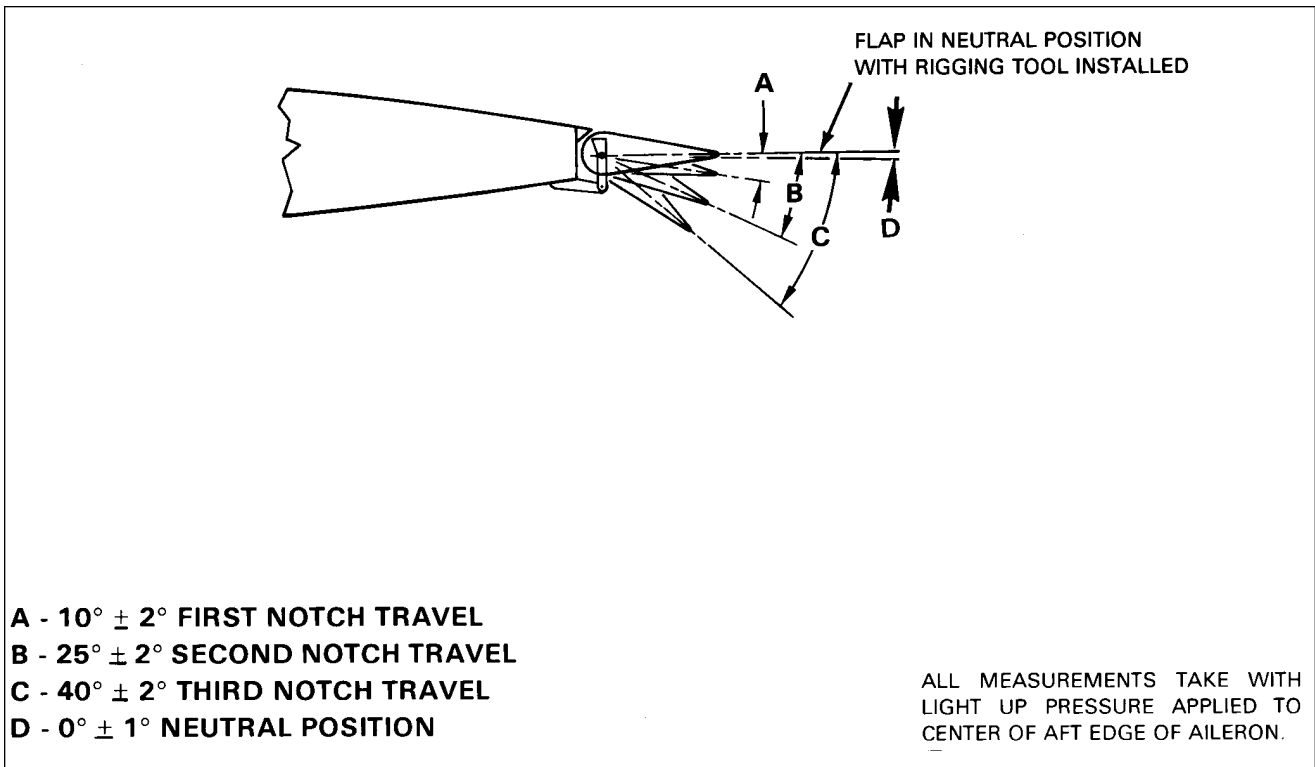

Figure 27-19. Flap Rigging
6. Set the flap control cable tension (handle next to floor, 0 degrees) as given in Figure 27-19 at the turnbuckle that is attached to the lower end of the flap handle in the floor tunnel. To do this and if not previously removed, remove the flap handle cover and enough tunnel carpet to remove the tunnel cover just aft of the handle. Adjust and resafety the turnbuckle.
11. Check the flap for full down travel to the degrees required in Figure 27-19. Should the travel not be as that required, readjust the torque tube screw in or out as required. After readjusting the screw, it will be necessary to review Steps 4 thru 10.